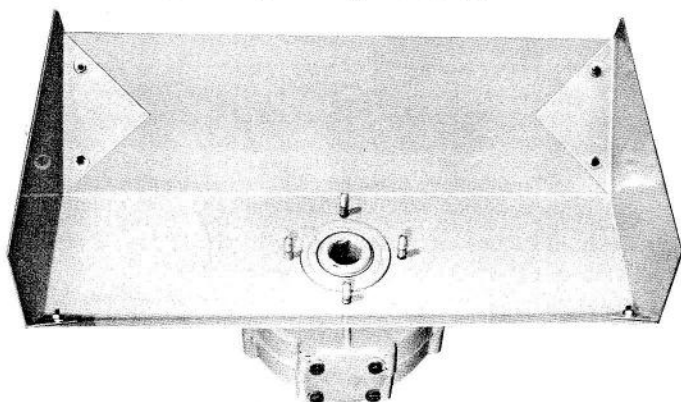

Figure 23
When plowing for the first time, set the Plow at the approximate angle to the ground as shown in Figure 23. The Nut which secures the Angle Adjustment Lever must be loosened to do this; be sure it is tightened firmly after the proper angle is set.
4. Fit the Hood as shown in Figure 23. Insert the Cultivator Drive Shaft into the Gear Housing.